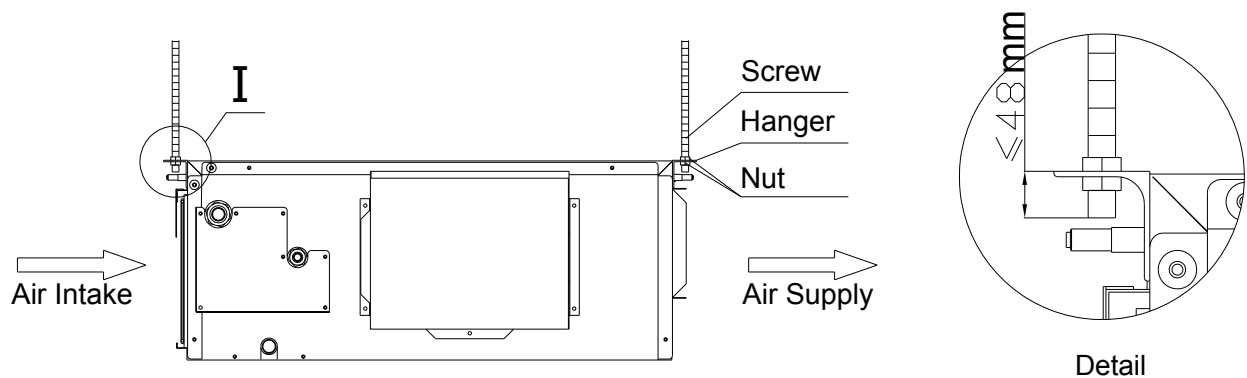

Figure 1-1-5
5) Install the indoor unit at the ceiling as shown in Fig 1-1-5.